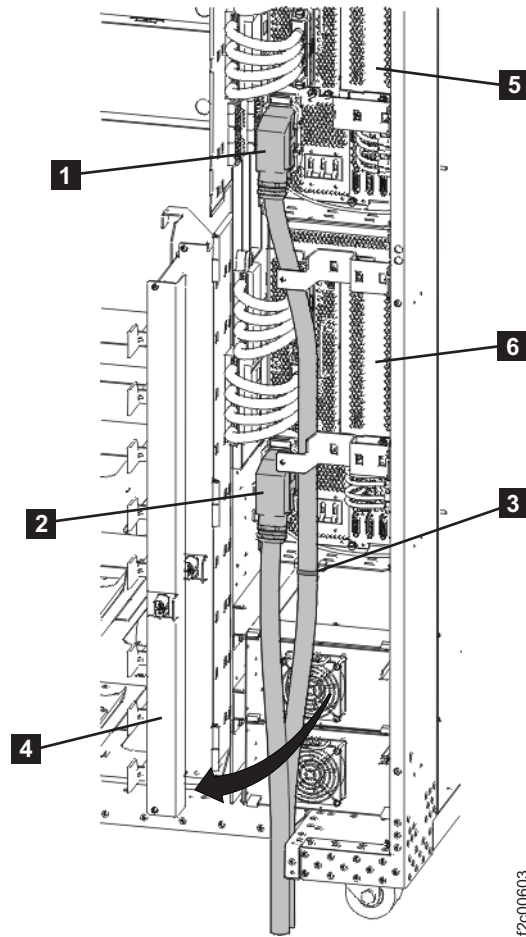

Figure 33. Base rack power cables
2. The mainline power cable that connects to PPS-1 (upper) **5** is longer than the mainline power cable that connects to PPS-2 (lower) **6**. See Figure 33 on page 37. Use the cable label and part number (P/N) to identify the longer cable.
3. Ensure the 208VDC bus bar gate **4** is in the open position. See Figure 33.
- c. Route the shorter cable **2** up through the tailgate. Connect it to PPS-2 (lower) similarly to what is shown in Figure 33 on page 37.